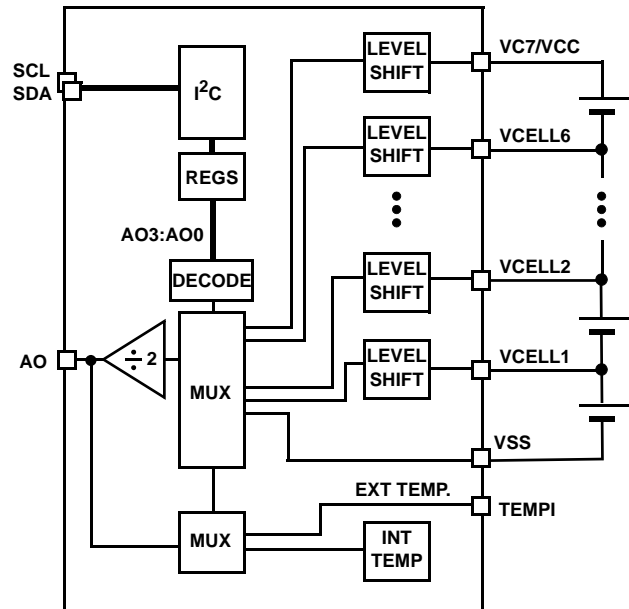

FIGURE 6. ANALOG OUTPUT MONITORING DIAGRAM
The ISL9208 devices can be used to externally monitor individual battery cell voltages and temperatures. Each quantity can be monitored at the analog output pin (AO). The desired voltage is selected using the I2C interface and the AO3:AO0 bits. See Figure 6.